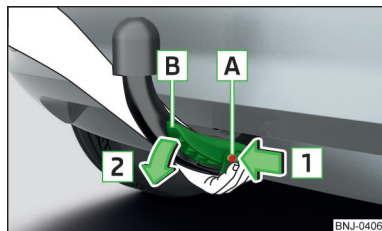

Fig. 241
- Grasp the tow bar from **below** » Fig. 241.